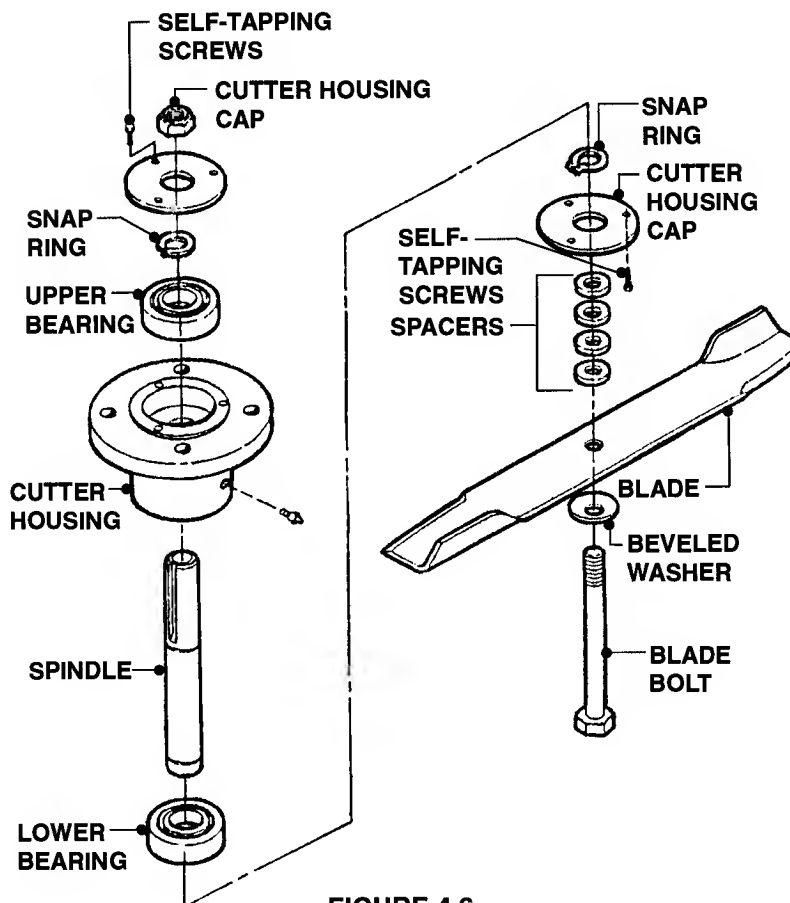

**FIGURE 4.5**
- D. Remove Spindle Nut and any Spacers from top of Spindle. See Figure 4.5.
- E. Remove Blade Bolt, Beveled Washer, Blade and any Blade Spacers. Refer to Figure 4.5.
- F. Remove the four (4) 3/8 - 16 Hex Flange Lock Nuts securing the Cutter Housing to the Deck and remove Cutter Assembly.